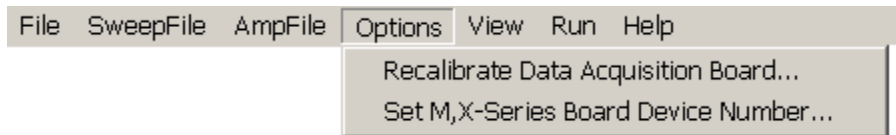

Fig. 3.2.4. Options Menu (The Set M,X-Series Board Device Number only appears when running the M- or X-Series National Instruments boards).
- 4) **O**ptions Menu (Fig. 3.2.4)